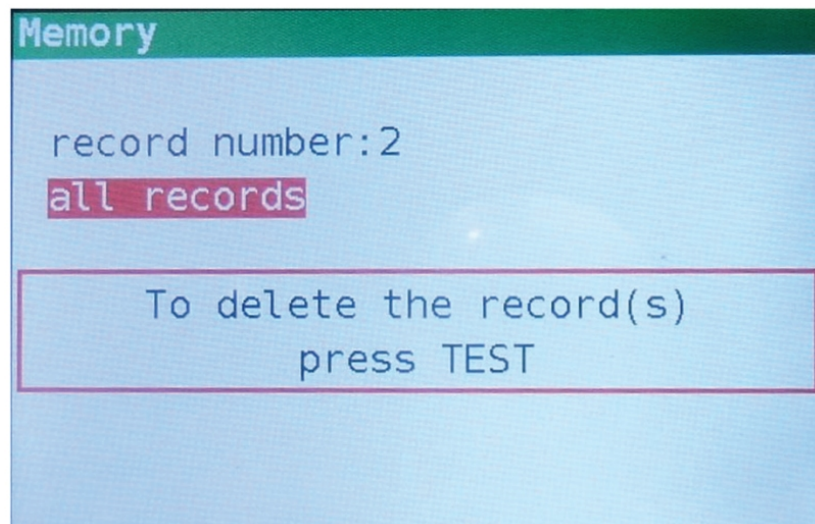

**Figure 7.6: Delete screen**
**Step 3** Press the RIGHT key, the following screen will be displayed (Figure 7.6).